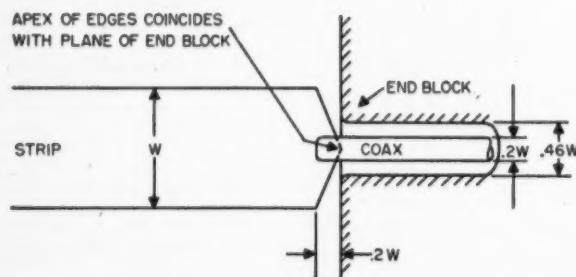

Fig. 5-7. Fifty-ohm coaxial-to-strip transition.
Fig. 5-7 shows a transition between a strip and a coaxial line; dimensions are in terms of the width (W) of the strip. The triangular end of the strip connects directly to the center conductor of the coaxial line.